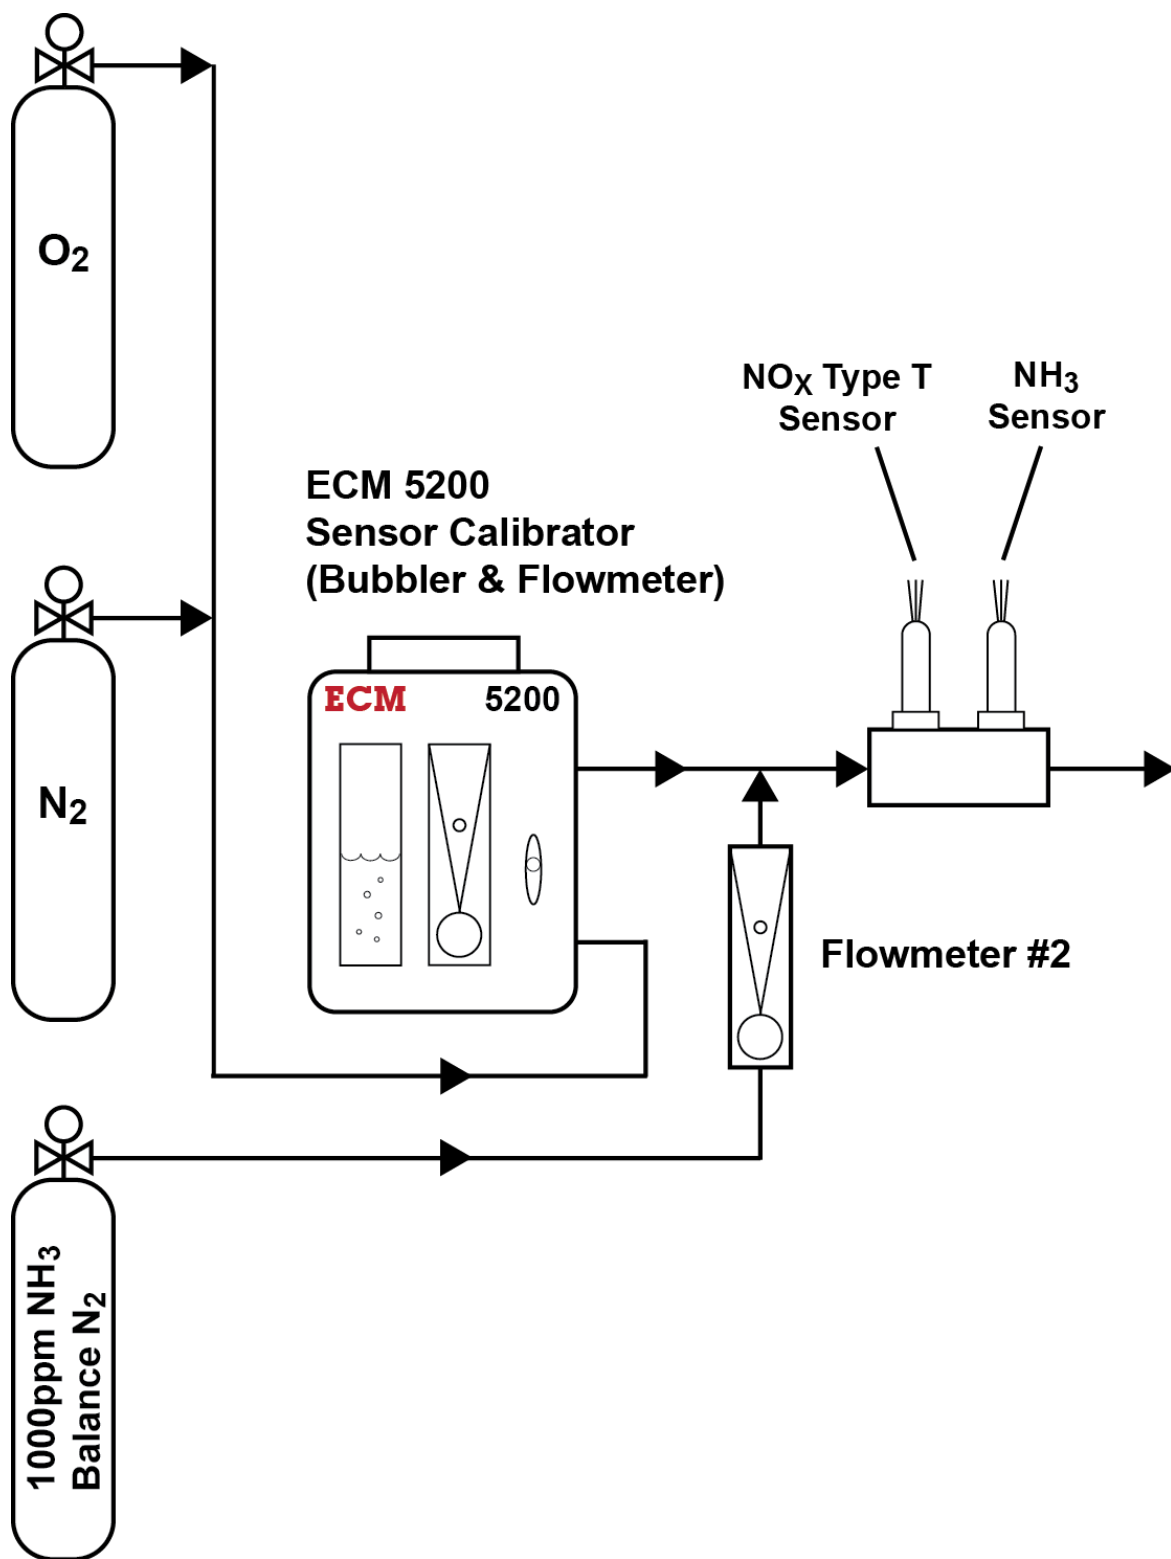

Figure 6: Model Gas Calibration Apparatus
2. Put the  $\text{NH}_3$  sensor and the pressure sensor (if so equipped) in the model gas calibration apparatus shown in Figure 6 or in the exhaust of an engine.